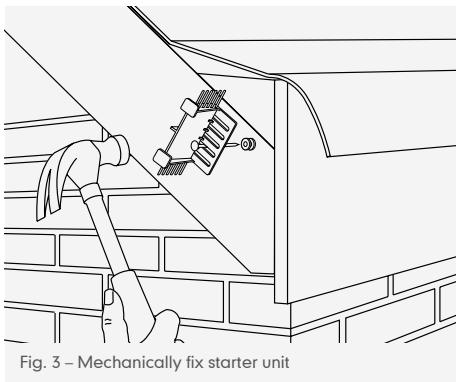

Fig. 3 – Mechanically fix starter unit
- 8 Once removed, relocate starter insert in marked position and mechanically fix through spacer supplied, trapping between starter insert and gable wall or bargeboard (Fig. 3).